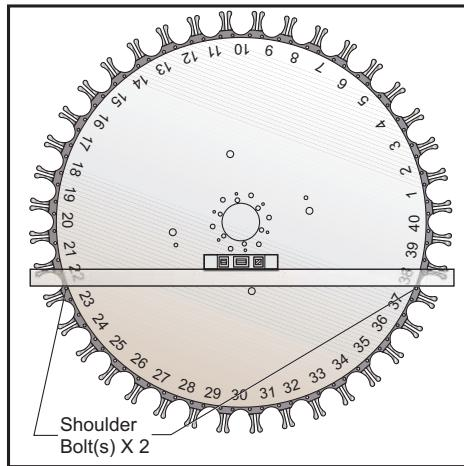

Figure 2
14. Install two $\frac{1}{4}$ -20 x 2 in. shoulder bolts into threaded holes on the face of the carousel as shown in Figure 2. Place a 48" bubble level or a flat bar with a torpedo level across the two shoulder bolts.